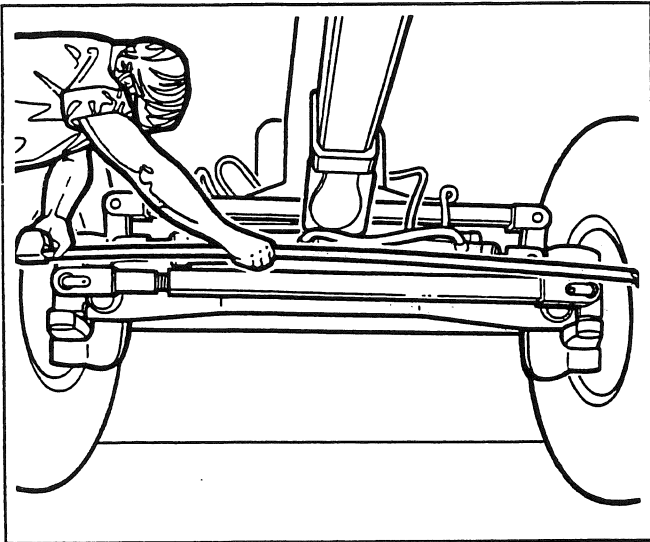

Fig. 17
4. When the adjustment is correct, hold the adjustment pin with a screwdriver. Tighten the locknut (60) to the specified torque. Repeat steps 3 and 4 for the right-hand pivot block.
6. Start the toe-in check by making a mark on the tires behind the axle frame and at the same level as the center line of the spindle. Measure the distance between the tires at these marks (see Fig. 17).